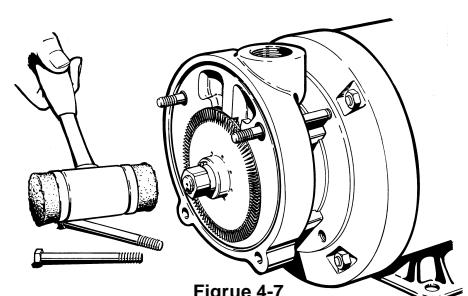

Figure 4-7
2. Remove the two (2) 3/8" nuts (#20), and the two (2) 3/8" X 4" bolts (#19) from the cover. (#2)
4. Remove the impeller (#11), refer to Figure 4-7. The impeller is a slip fit and, under normal conditions, can be removed by gently tapping on the end of the shaft sleeve with a mallet. Leave the impeller key (#23) in